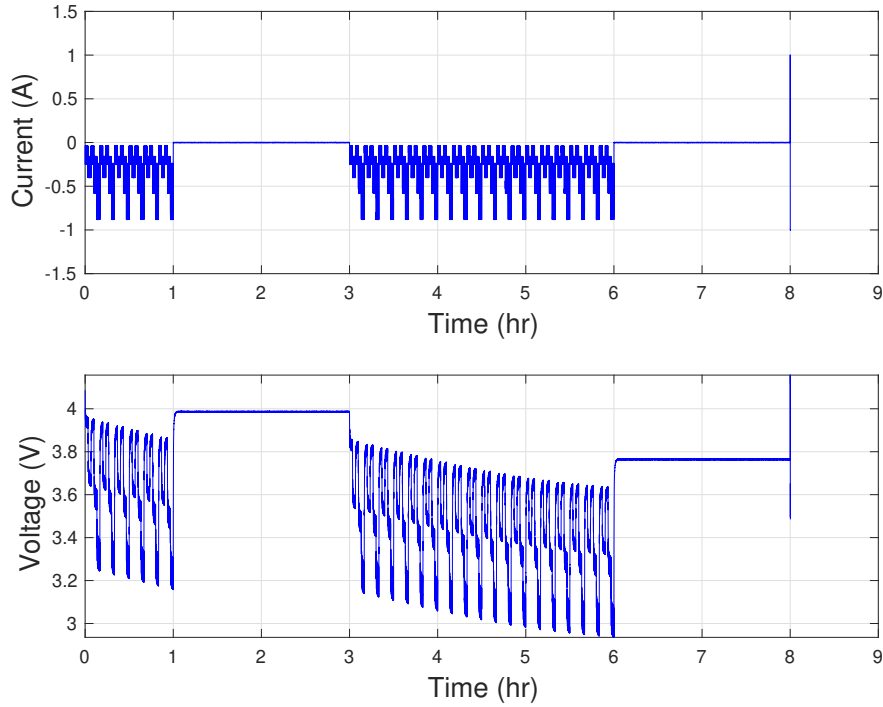

Figure 1: TIVdata1.mat (Use this data to estimate battery capacity Q and internal resistance R_0 .)
TIVdata1 You will use the time, voltage and current data (shown in Figure 1) from the matlab data file named ‘TIVdata1.mat’ to accurately estimate the **capacity** (Q) and the **internal resistance** (R_0) of the battery. Table 1 shows the first seven data points from ‘TIVdata1.mat’.
Based on the data given in the file named ‘TIVdata1.mat’ (and shown in Figure 1) and the OCV parameters corresponding to the Combined+3 model in Table 3, compute the SOC of the battery at the following two points:
You will use the equivalent circuit model (ECM) of the battery shown in Figure 3(a) for resistance estimation. The end of the current profile in Figure 1 consists of a pulse current (1A, -1A, 4 pulses, each pulse 20 samples). An enlarged version of the pulse data is shown in Figure 3(b).
(b) Pulse data for resistance estimation (last portion of Figure 1)